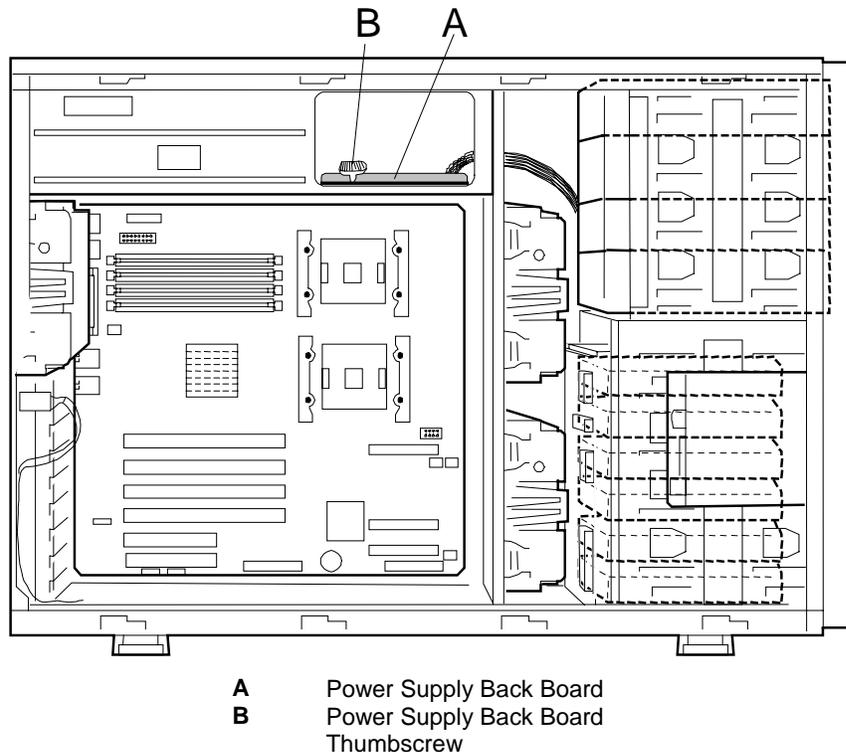

Figure 4-56. Removing the Power Supply Back Board
9. Figure 4-56, A shows the location of the power supply back board. Tag and remove all power supply back board cables connected to the system board, SCSI backplane, and peripheral devices installed in the system.
10. Loosen the single thumbscrew securing the power supply back board to the system chassis. See Figure 4-56, B.
15. Tighten the single thumbscrew securing the power supply back board to the system chassis. See Figure 4-56, B.